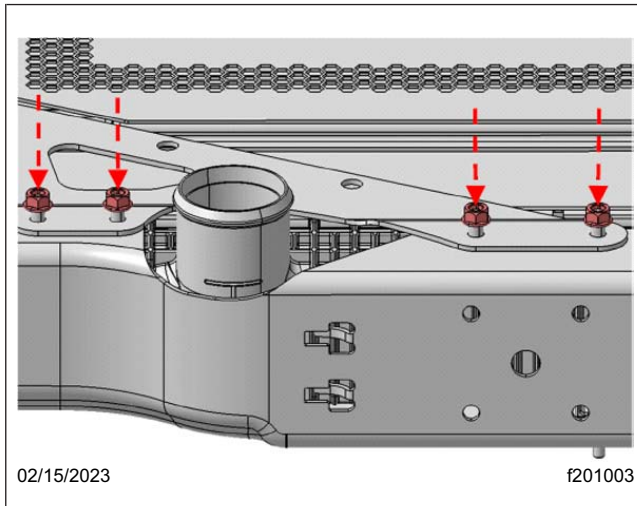

Fig. 14, M8 Flange Nut Installation
- 15.3 Tighten the M8 hex flange nuts 13 ± 1.5 lbf·ft (18 ± 2 N·m). See Fig. 14.